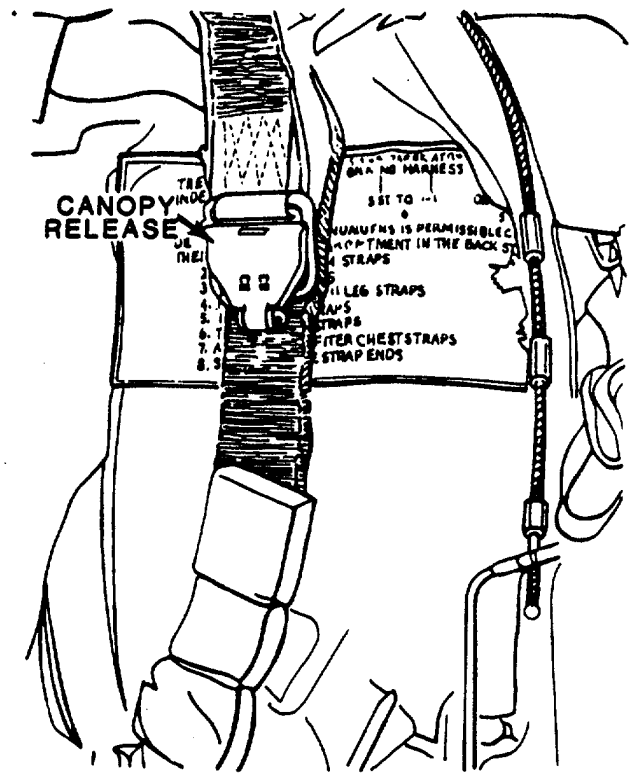
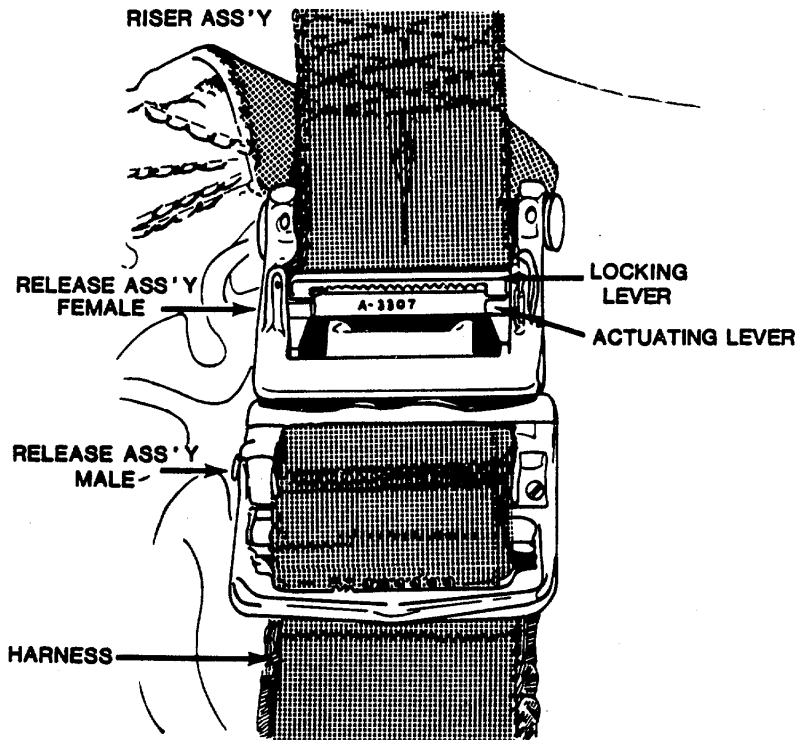

Figure 1-10. Canopy Release Assembly, Typical.
Figure 1-11. Canopy Release Assembly, Koch Type, OV-1 Ejection Seat Harness.
e. *Koch Type Canopy Release.* This canopy release assembly (fig. 1-11) is used on the adjustable
d. Visually inspect each canopy release (fig. 1-10) to insure the canopy release safety cover is closed and the male portion is securely latched in the female portion on the ejection seat restraint harness (fig. 1-11).